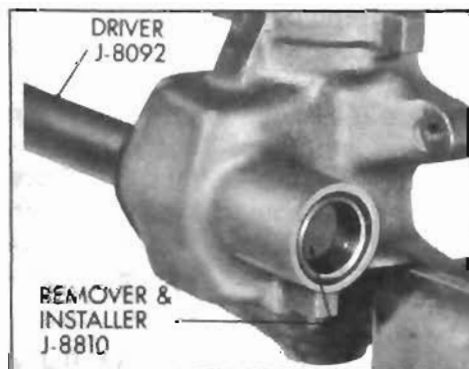

Figure 8-14—Installing Pitman Shaft Bushing
5. Inspect teeth of ball nut and pitman shaft for pitting or scoring which would require replacement of ball nut or pitman shaft. Inspect pitman shaft bushing in housing for excessive wear or scoring. If necessary, remove pitman shaft bushing and install a new bushing with Remover and Replacer J-8810 and Drive Handle J-8092. See Figure 8-14.